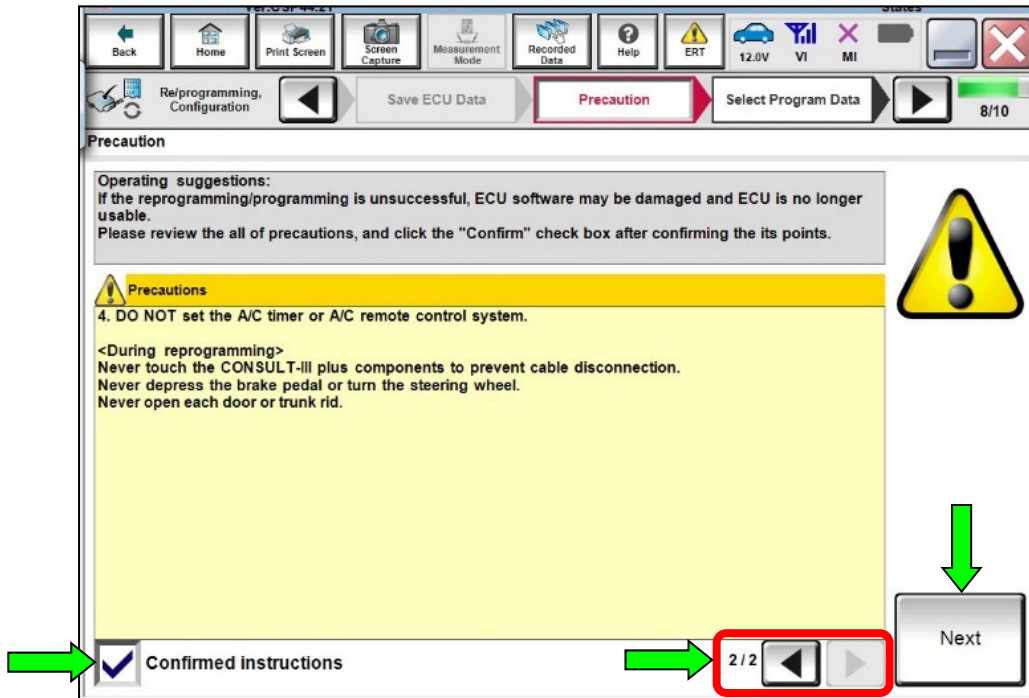

Figure 8
12. Read and follow all text on both screens, select the **Confirmed Instructions** box, and then select **Next** (see Figure 8).